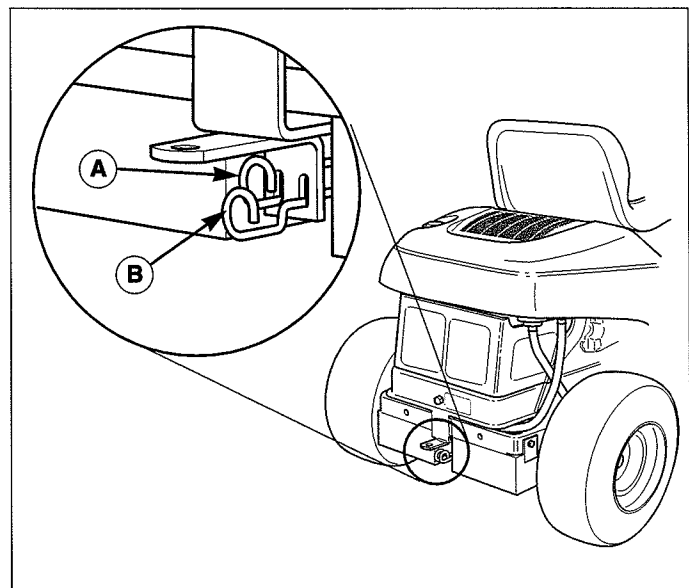

Figure 4. Hydro Transmission Release Levers
2. Disengage the transmissions by moving both release levers from engaged position (A, Figure 4) to released position (B). The release levers are located in the back of the unit between the rear weights (see Figure 4). **BOTH release levers must be pulled fully rearward and down to push the rider by hand.**